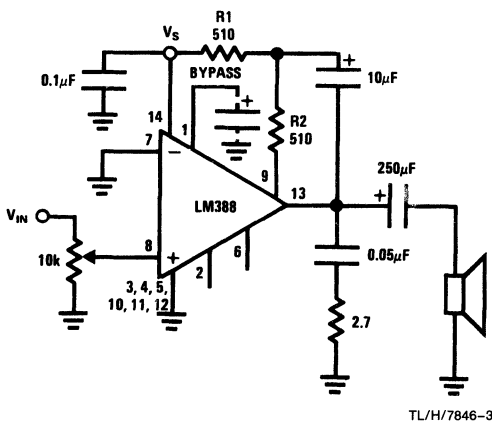
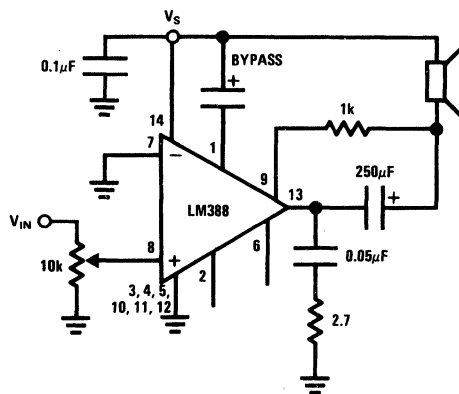

FIGURE 1. Load Returned to Ground (Amplifier with Gain = 20)
FIGURE 2. Load Returned to  $V_S$  (Amplifier with Gain = 20)
## Electrical Characteristics $T_A = 25^\circ\text{C}$ , (Figure 1)
**Note 3:** If load and bypass capacitor are returned to  $V_S$  (Figure 2), rather than ground (Figure 1), PSRR is typically 30 dB.
For reduced component count the load can replace R1. The value of  $(R1 + R2)$  is the same, so R2 is increased. Now  $C_B$  is both the coupling and the bootstrapping capacitor (see Figure 2).